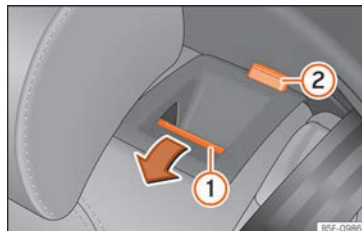

Fig. 107 Rear seat: folding the backrest.
- Press the unlock button » Fig. 107 ① forwards and at the same time fold the backrest